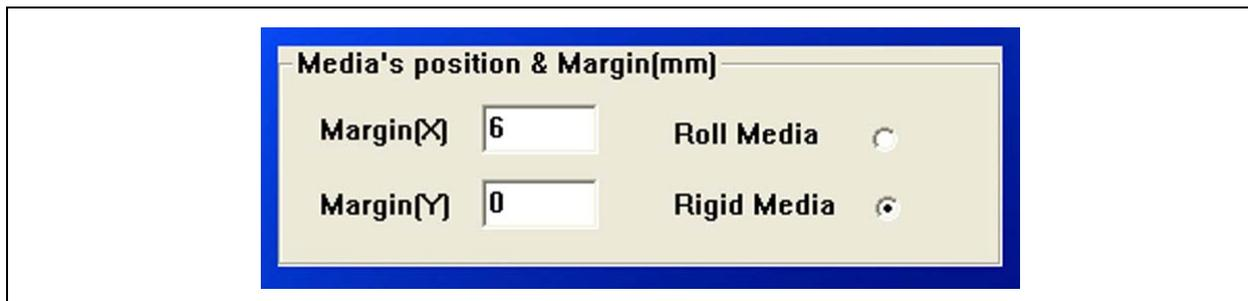

Figure 36 Rigid Media Printer Margin Setting
- 11 Set printer to **Rigid Media** from the **Page Settings** tab. Selecting **Rigid Media** moves the media into proper position prior to printing. See **Figure 36**.